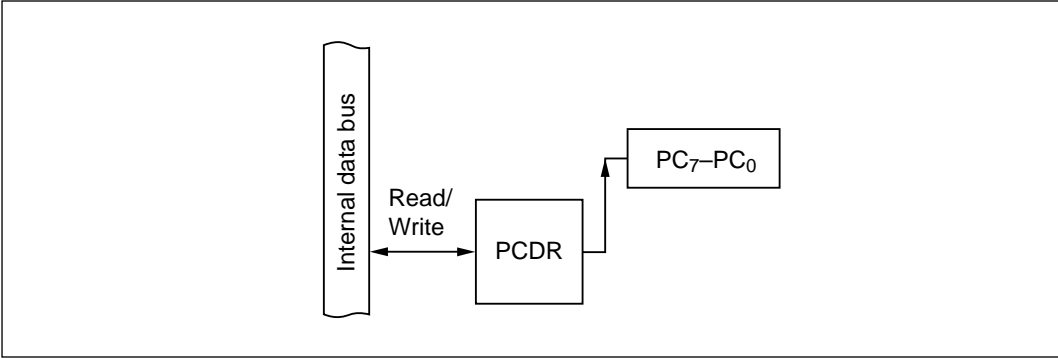

Figure 10-89 Output Port (Mode 7)
(3) Output Port (All Pins: Mode 7): Figure 10-89 shows a block diagram illustrating the general-purpose output function. Table 10-67 indicates register read/write data. The value written in the port C data register (PCDR) is output at the pin. When read, PCDR returns the value written in PCDR.